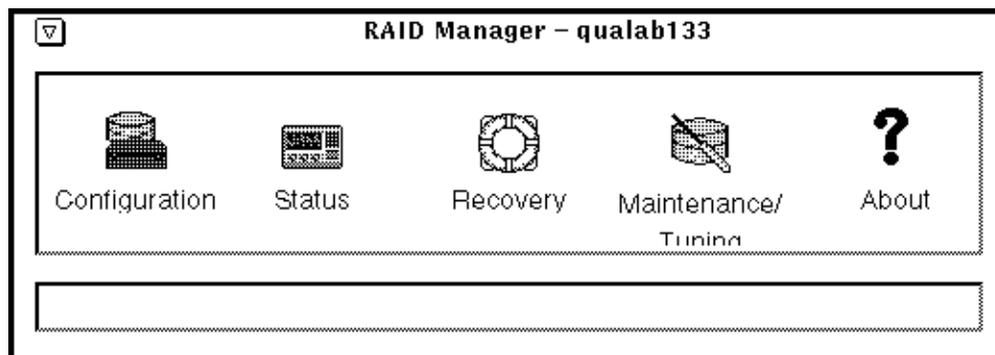

FIGURE 2-3 Application Icons
- **From the application icons, (FIGURE 2-3), double-click the appropriate icon for the program application you want to start.**